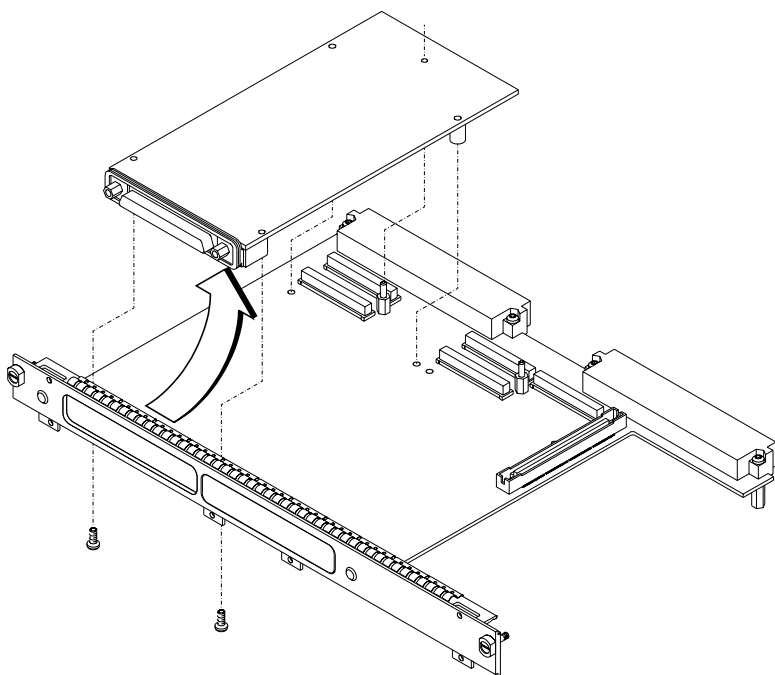

Figure 5-11 Removing a PMC card from the Bridge Adapter
- 10 To remove a PMC card from the bridge adapter, remove the four screws from the bottom of the bridge adapter and separate the PMC card from the bridge adapter, as shown in Figure 5-11.